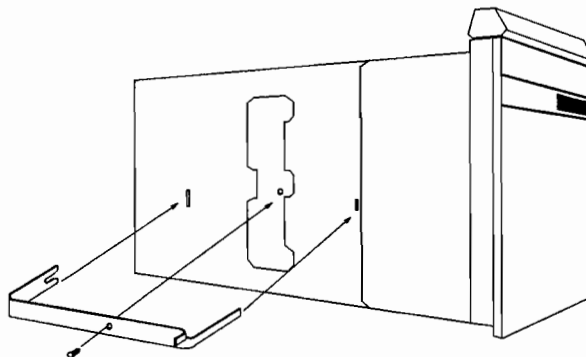

Figure 2-2. Shipping Bracket Removal
5. Pull the bracket out. See Figure 2-2.